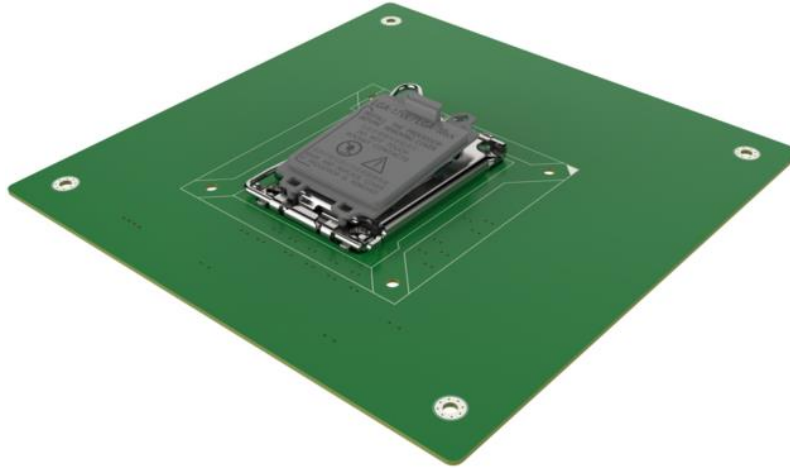

Figure 4-5: Engage The Load Lever
Step 9: **Engage** the load lever by pushing it back to its original position. There will be some resistance, but will not require extreme pressure. See **Figure 4-5**.